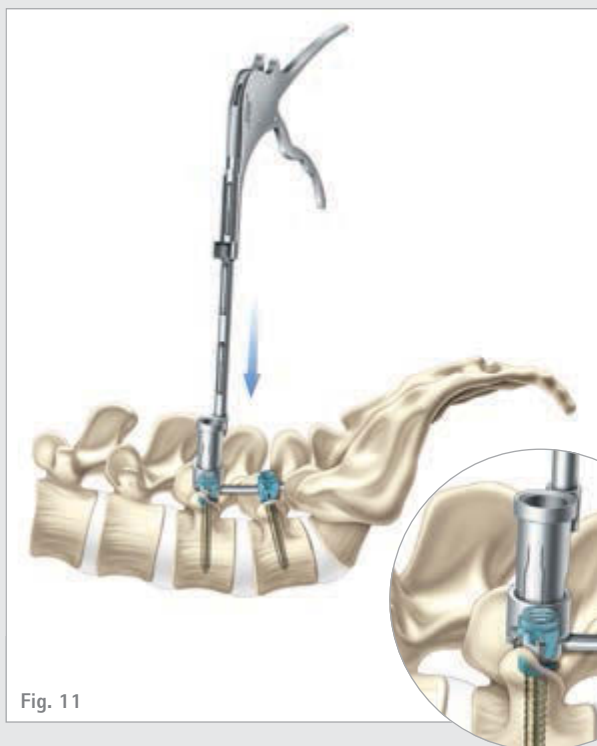

Fig. 11
- Place the Rod Persuader (FW285R) over the implant head and ensure the tip of the persuader is fully engaged to the head of the implant. (Fig. 11)